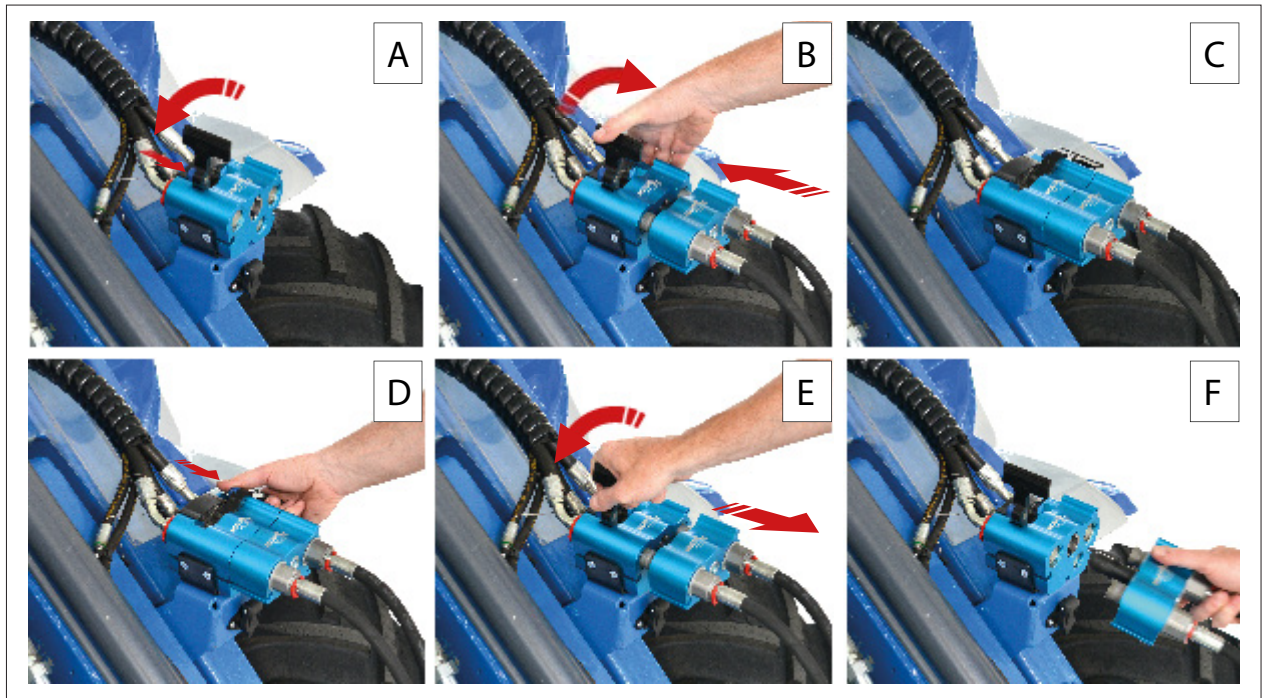

FIG. 29
Before making hydraulic connections between the machine and the attachment (FIG. 29) you need to release the residual pressure in the hydraulic circuit of the machine. To make this proceed as follows:
- 2) Press the lock button (FIG. 28 - Ref. 2) on the lock handle and raise the lock handle (FIG. 28 - Ref. 3) to the unlocked position (FIG. 29 - Ref. A).
- 4) Pull the lock hand (FIG. 29 - Ref. B) downwards, drawing the adapter plate into the connector (FIG. 29 - Ref. C).
- 1) Press the lock button (FIG. 29 - Ref. D) on the lock handle and raise the lock handle to the unlocked position (FIG. 29 - Ref. E).
- 2) Disconnect the attachment's hydraulic lines from the machine (FIG. 29 - Ref. F).